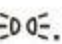

Fig. 54 Instrument panel: Headlight control switch
- Turn the light switch to **AUTO** ⇒ fig. 54.
On vehicles with *xenon lights* the daytime running lights will come on automatically when the ignition is turned on and the light switch ⇒ *page 61*, fig. 54 is in the **O** position or the **AUTO** position (only in daylight conditions). The **Daytime running lights** function can be turned on and off in the MMI menu **Exterior lighting** ⇒ *page 63*. On vehicles with *halogen lights* there is no daytime running lights function.
The daytime running lights are activated **only** when the light switch \Rightarrow page 61, fig. 54 is either at the **O** or the  position. When the ignition is switched on, there is a difference between vehicles with bi-xenon lights and halogen lamps: